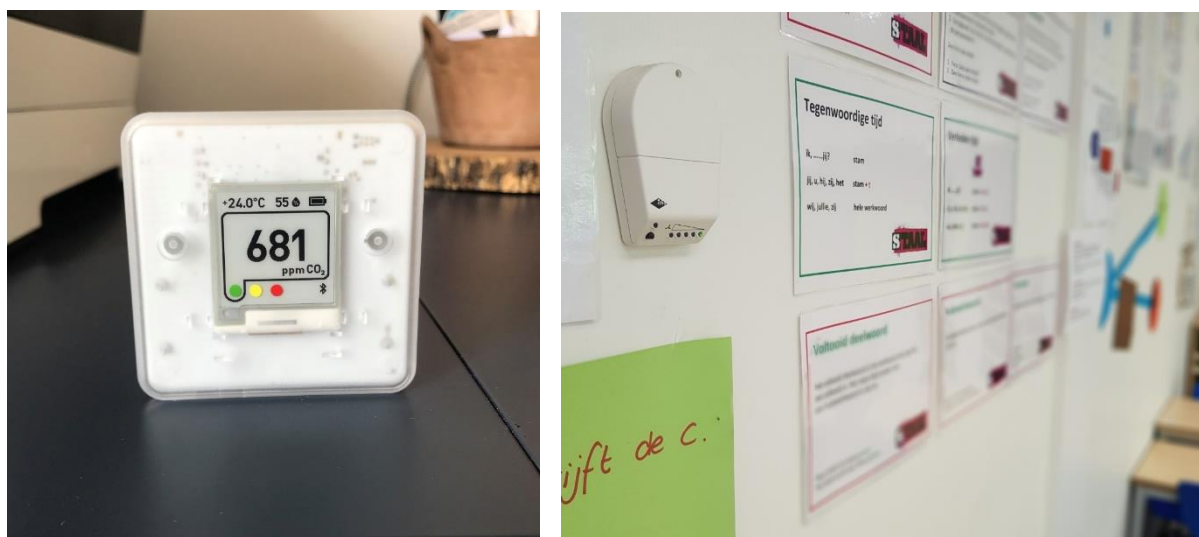

Figure 2. Examples of CO₂ monitors with traffic light indicator showing the indoor air quality.
- Install a CO₂ monitor with traffic light indication (Figure 2) at least in the classrooms in which ventilation depends on opening windows and/or grids. This visualizes the need for extra ventilation by opening windows. Make sure that the CO₂ monitor is placed at a visible position in the classroom, away from fresh air inlets (e.g. open windows). In times of the pandemic, we suggest to temporarily change the default settings of the traffic light indicator (orange light up to 800 ppm and red light up to 1000 ppm) in order to promote as much ventilation as possible.